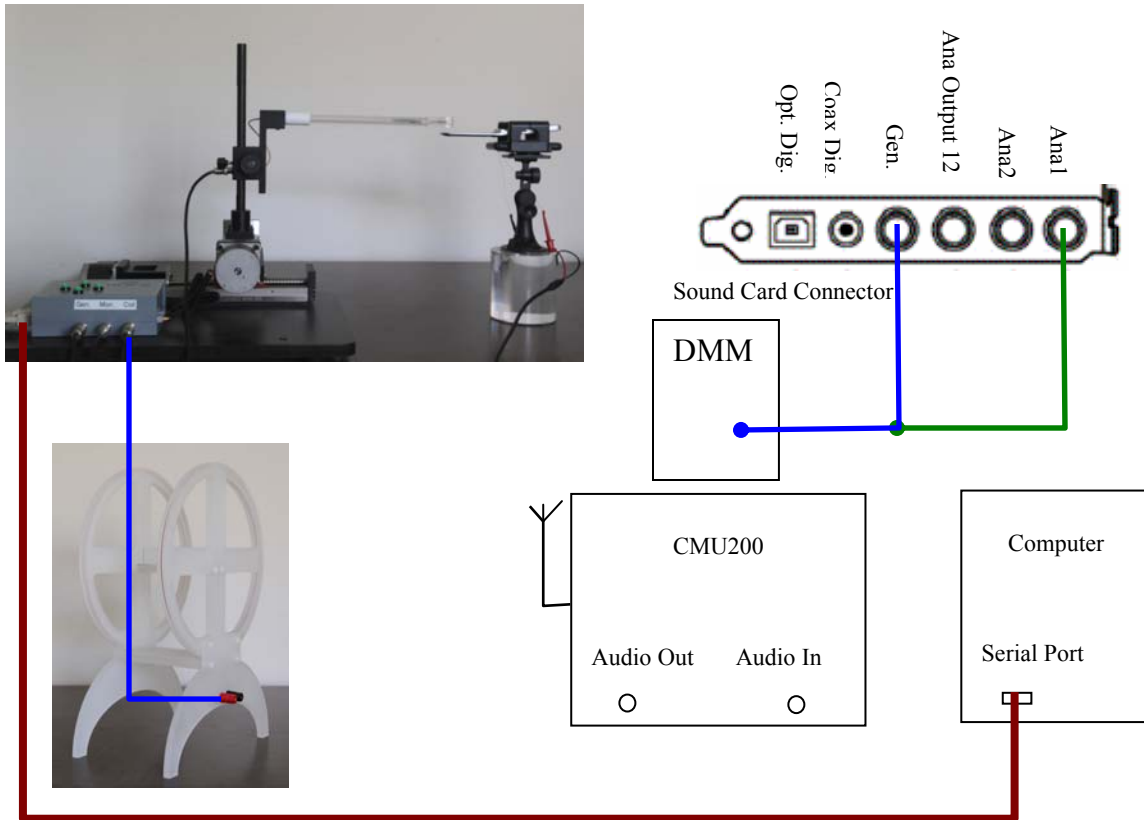

Fig. 2-13 Cal Ana1.
- Connect Ana1 to Gen. as shown in Fig. 2-13.